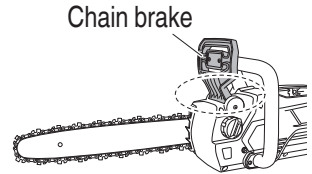

Fig. 45
6. **Inspecting the chain catcher (Fig. 45)**